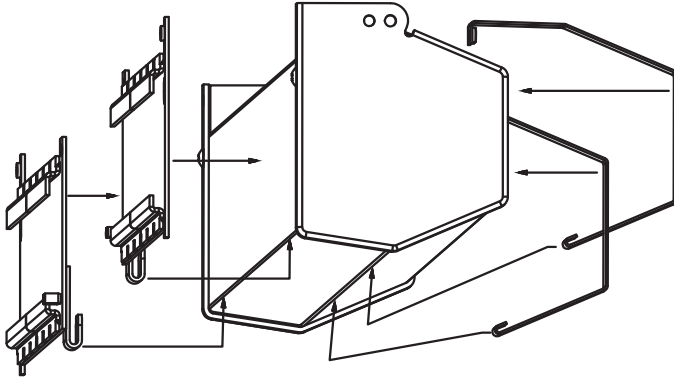
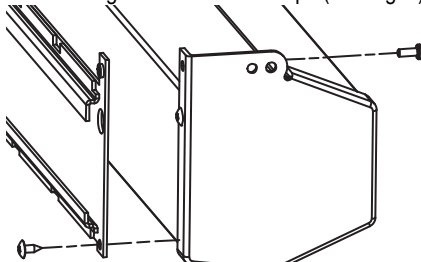

Figure 1
Figure 2
- ② Place front brackets on screen case, making sure the lower curled edge engages the screen case (see Fig. 1).
- ③ Place screen case on clean, steady surface with the back of the screen case facing up.
- ④ Remove the bottom screw from each endcap (see Fig. 2).
- ⑤ Attach Case Attachment Brackets to screen case by re-using endcap screws. Also use provided 10-32 x 1/2" PPH Zinc Machine Screws, attaching through the wall mounting holes on the endcaps (see Fig. 2).
Please Note: Make sure to hook bottom of Case Attachment Bracket under the bottom of the screen case (see Fig. 1).
- ③ Place front brackets on screen case, making sure the lower curled edge engages the screen case (see Fig. 1).
- ④ Place screen case on clean, steady surface with the back of the screen case facing up.
- ⑤ Remove the bottom screw from each endcap.
- ⑥ Attach Case Attachment Brackets to screen case by re-using endcap screws. Also use provided 10-32 x 1/2" PPH Zinc Machine Screws, attaching through the wall mounting holes on the endcaps (see Fig. 2).